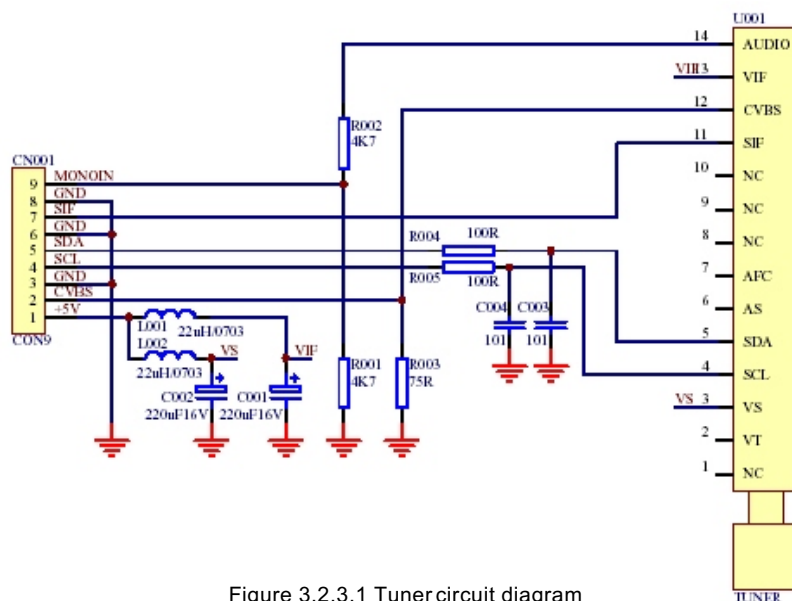

Figure 3.2.3.1 Tuner circuit diagram
(1) Tuner circuit is shown in the figure 3.2.3.1: